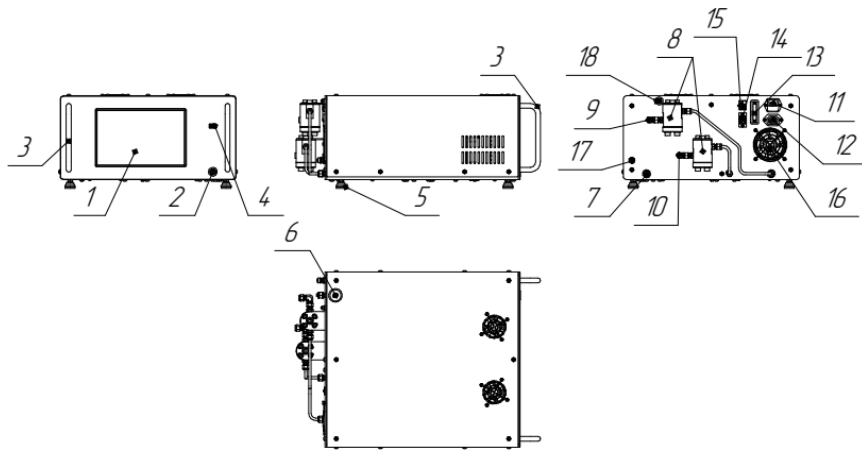

Fig. 2. Control unit
The control unit is shown in Figure 2.
4.3 The calibrator control unit is made in a desktop version. The housing is made of metal. On the front panel there are touch display 1 (Fig. 2), calibrator on button 2, USB connectors 4 and handles 3. The display shows readings of the calibrator and all the necessary data. In addition, the display is used to control the calibrator, enter data and change operating parameters. On top there is filler neck plug 6.
6.8 Fill in the working liquid. Unscrew filler neck plug 6 (Fig. 2) and pour the working liquid into the tank, while being guided by readings of the working liquid level sensors (before the upper level sensor is triggered).